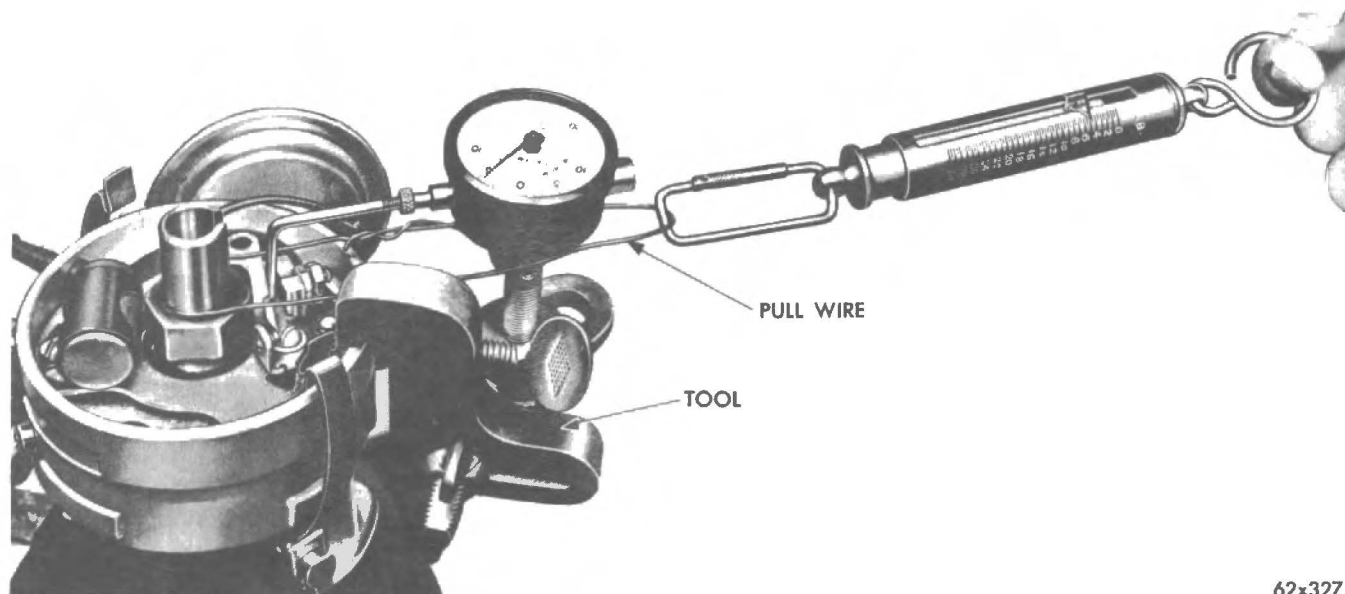

Fig. 3 - Checking distributor shaft side play (typical).
- (1) Remove the distributor rotor.
- (2) Disconnect the primary lead wire at the distributor terminal. Do not loosen the movable contact arm spring retaining unit.
- (3) Clamp the distributor hold down clamp in a vice equipped with soft jaws and apply only enough pressure to restrict any movement of the distributor, during the test.
- (4) Attach a dial indicator to the distributor housing so that the indicator plunger arm rests against the movable breaker arm at the rubbing block (Fig. 3).
- (5) With the rubbing block at the breaker arm on the highest point of a cam lobe, place one end of a wire loop around the top of the distributor shaft. Hook a spring scale in the other end of the wire loop and pull on a line with the plunger of the indicator gauge.